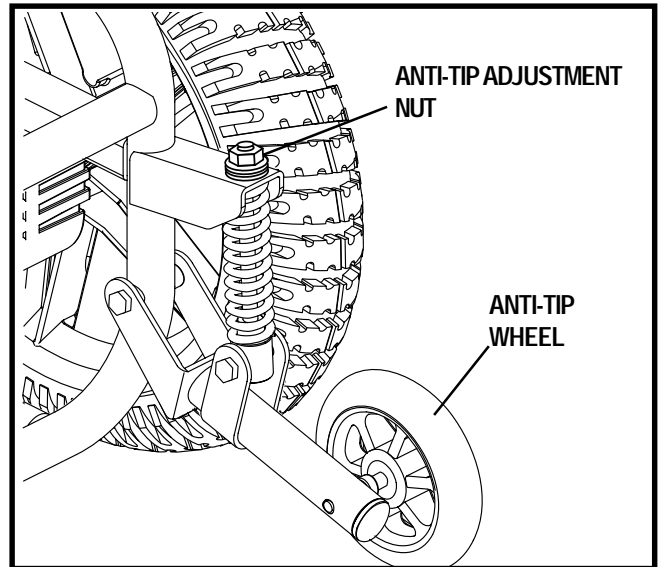

Figure 18. Anti-Tip Adjustment
6. Adjust the anti-tip adjustment nut so that the anti-tip wheel is 0.5-1 in. off of the ground. See figure 18. Turn the anti-tip adjustment nut clockwise to raise the anti-tip wheel and counterclockwise to lower the anti-tip wheel.